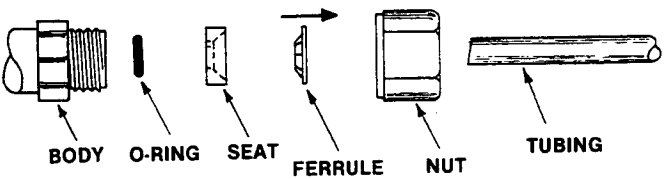

FIG. 6
- Place the FERRULE and the SEAT into the NUT in the proper order and in the proper direction (Fig. 6). The FERRULE has an anti pull-out feature which will permit it to slide over the tubing in the direction of the arrow only. Notice the direction of the bevel on both the FERRULE and the SEAT in the diagram.